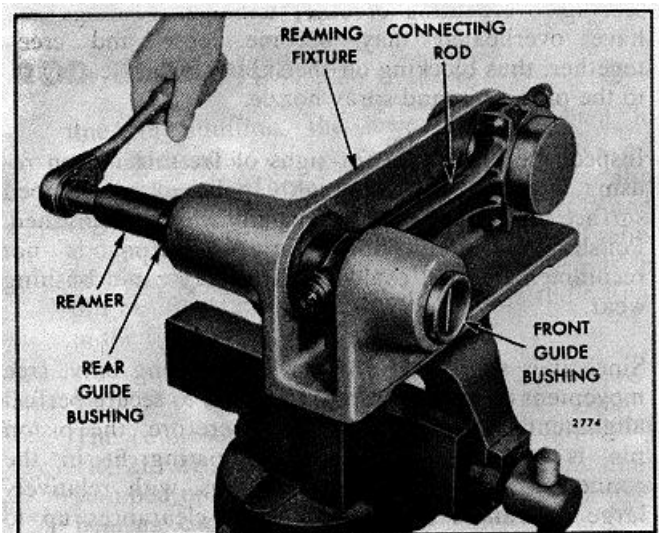

FIG. 11 - Reaming Bushings
- c. Place the crankshaft end of the connecting rod on the arbor of the fixture (Fig. 11) and tighten the connecting rod cap nuts to, 60-70(lb-ft (81-95 Nm) torque (lubrite nut) or 65-75 lb-ft (88-102 Nm) torque (plain nut).